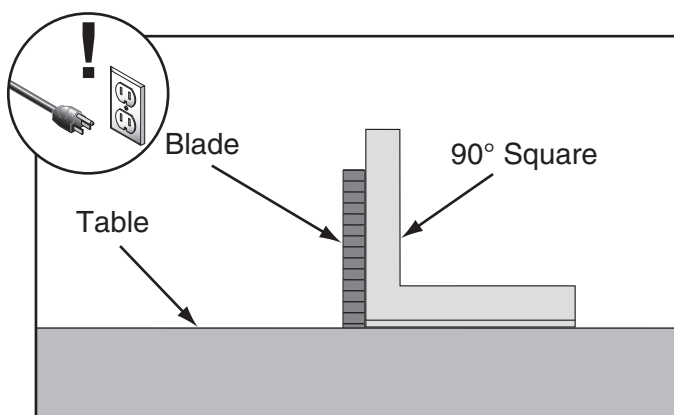

Figure 103. Checking blade at 90°.
3. Place a 90° square against table and blade so it contacts blade evenly from bottom to top, as shown in **Figure 103**. Make sure a blade tooth does not obstruct placement of square.